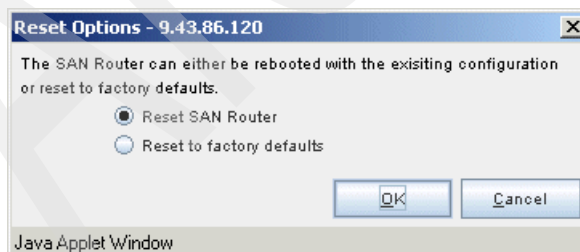

Figure 17-28 Selecting the Reset option
1. Select **File** → **Reset System** to reboot the router. Ensure that the **Reset SAN Router** radio button is selected, as shown in Figure 17-28. Click **OK**.